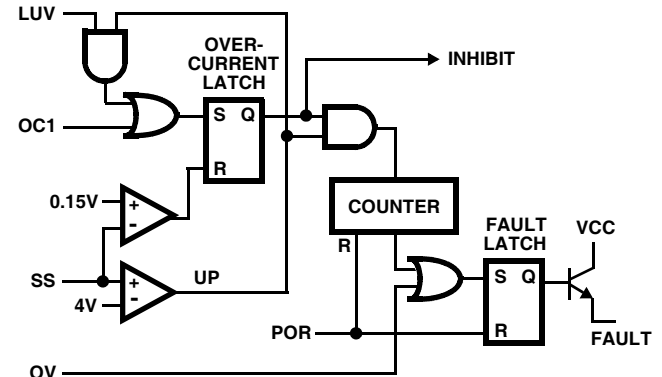

FIGURE 3. FAULT LOGIC - SIMPLIFIED SCHEMATIC
Figure 3 shows a simplified schematic of the fault logic. An over-voltage detected on VSEN1 immediately sets the fault latch. A sequence of three over-current fault signals also sets the fault latch. The over-current latch is set dependent upon the states of the over-current (OC), linear under-voltage (LUV) and the soft-start signals. A window comparator monitors the SS pin and indicates when  $C_{SS}$  is fully charged to 4V (UP signal). An under-voltage on either